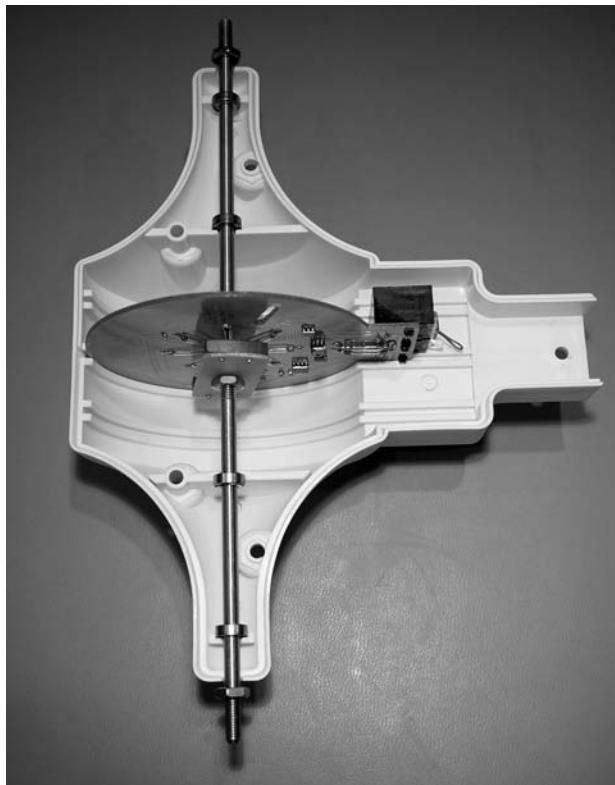

FIGURE 6-3: WS-1 with one case half removed.
3. Carefully lift off one side of the outer case as shown in Figure 6-3. Note the positions of the rotors and circuit board.
1. Place the circuit card back in the housing. The circuit board components should face down as shown earlier in Figure 6-3.